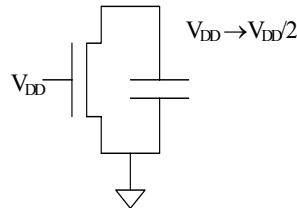

Figure 0.13 The equivalent resistance is to be computed for the H→L transition.
- b. Next, obtain the resistance equation 3.43 using the Figure 0.13. Assuming the V_{GS} is kept at V_{DD} , Calculate the R_{eq} as output (V_{DS}) transitions from V_{DD} to $V_{DD}/2$.(Figure 0.13).